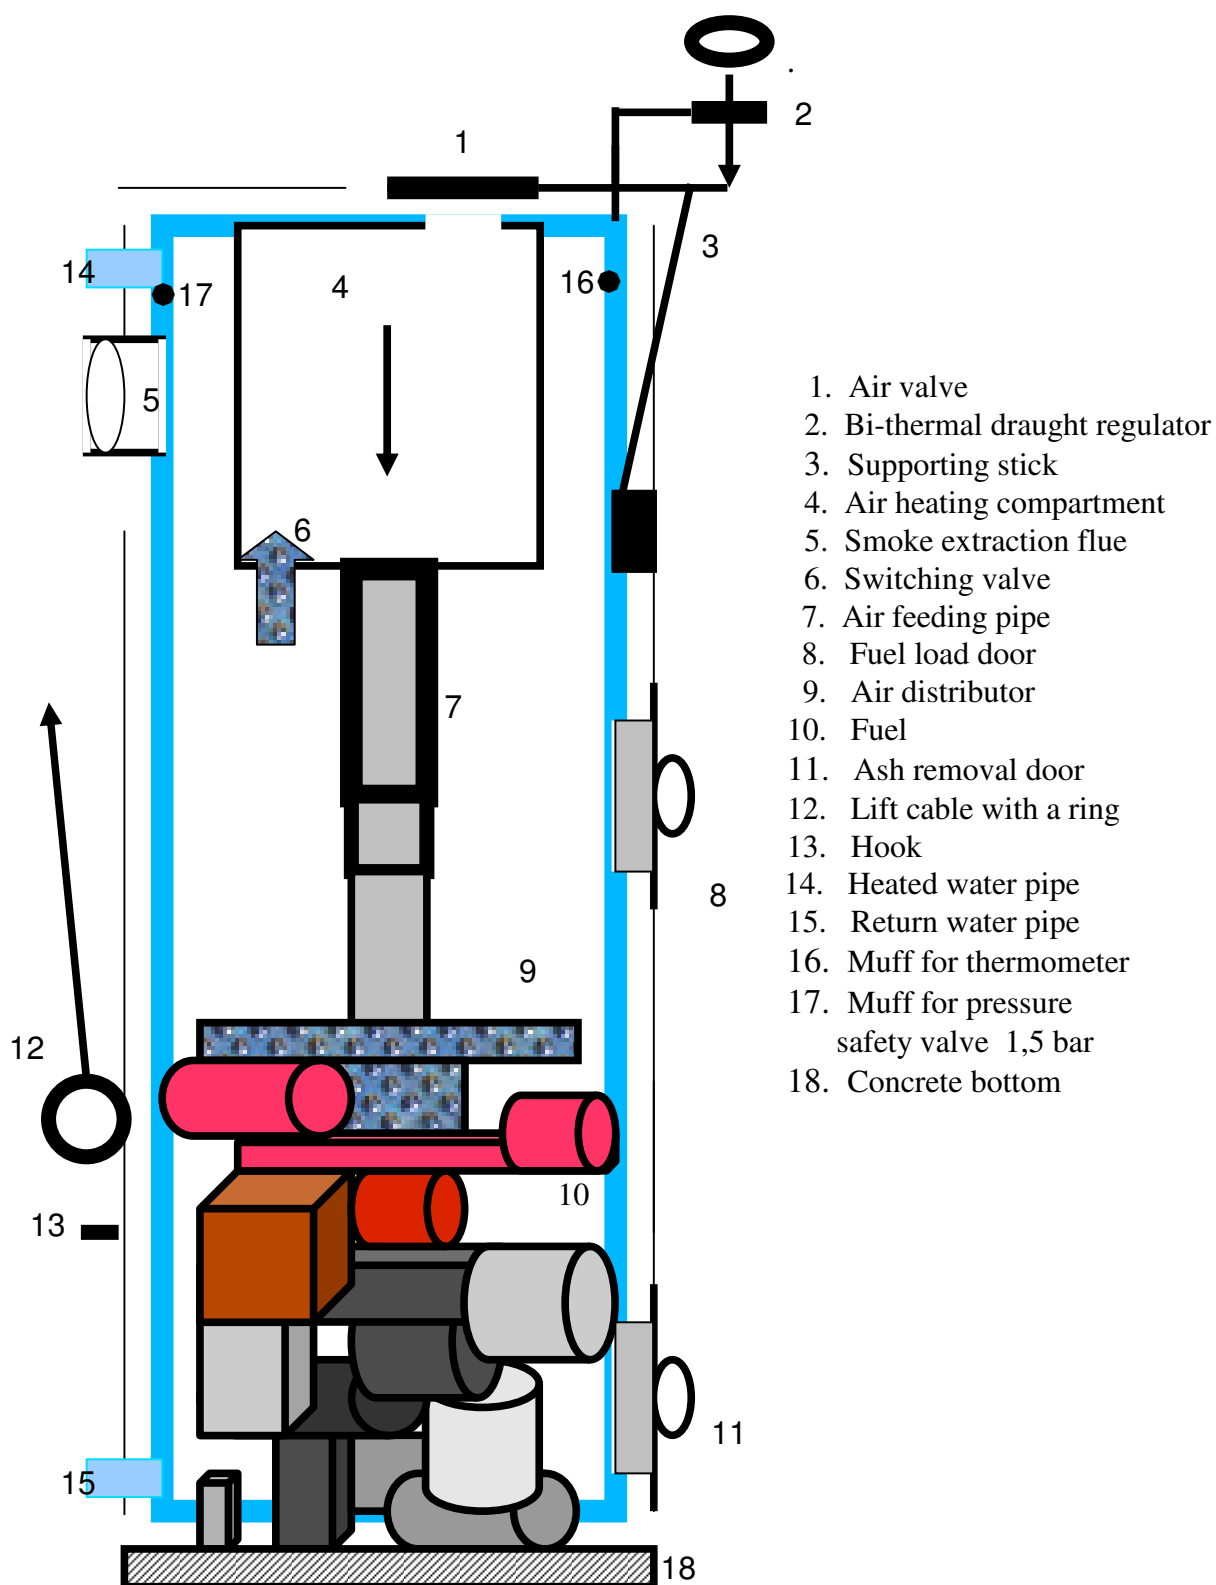
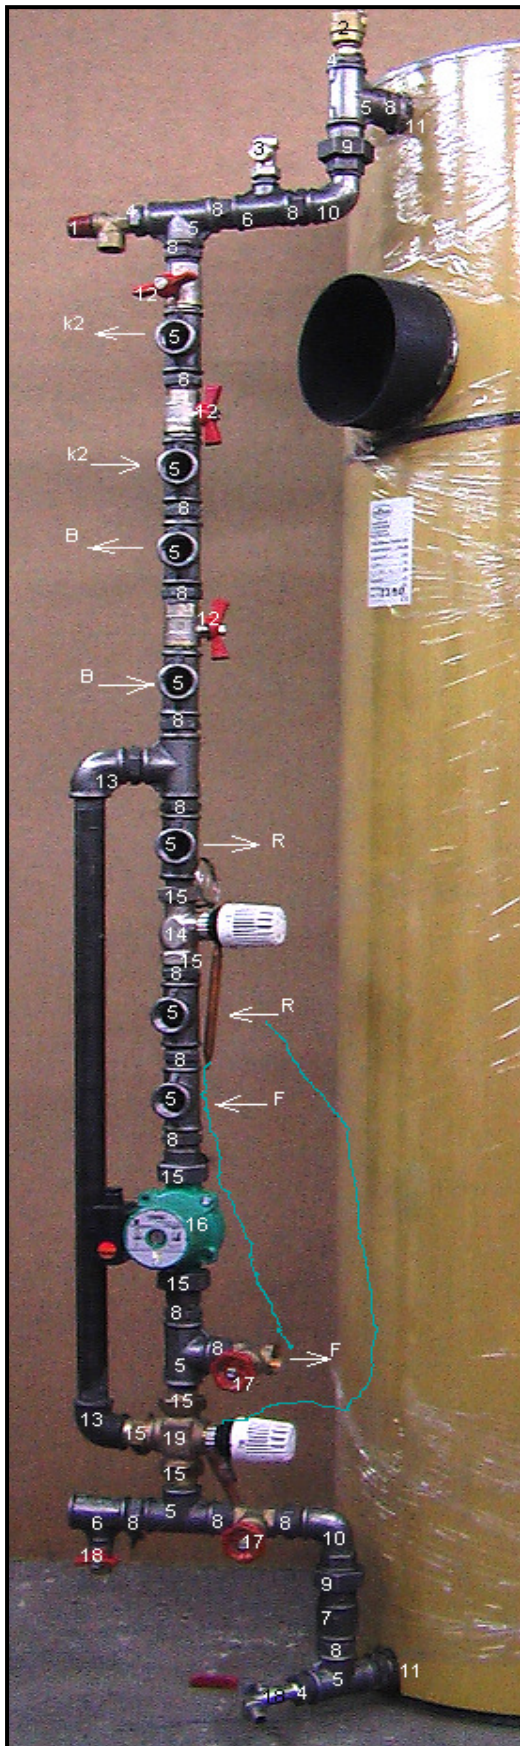

Fig. 2.1. Domestic solid fuel boiler STROPUVA.
Fig. 6.1. Plumbing node.
The boiler (fig. 2.1.) is a steel cylinder covered by a steel cylinder of a bigger diameter, a structure insulated. Bi-thermal draught regulator (2) is at the front side of the boiler (see for details item No. 8.2). Heated water is between the cylinders. A structure has openings for loading of solid fuel (8), ash removal (11) and smoke extraction flue (5). There are also openings for water supply (14 - 15), thermometer (16) and pressure safety valve (17). Air heating compartment (4) for the improvement of combustion quality and heating transmission is mounted on the upper part of a combustion compartment. The boiler can be configured with grid bars and switching valve (6) for burning with peat or coal.
- 1,5 bar pressure safety valve involves into the opening (17) (fig. 2.1.). Instead trident (5), use a bend D25 SME (10) (fig. 6.1.).